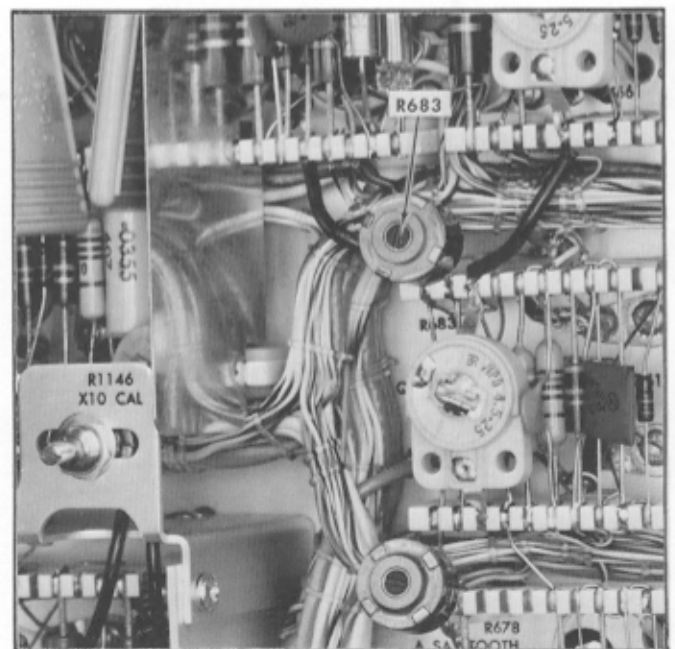
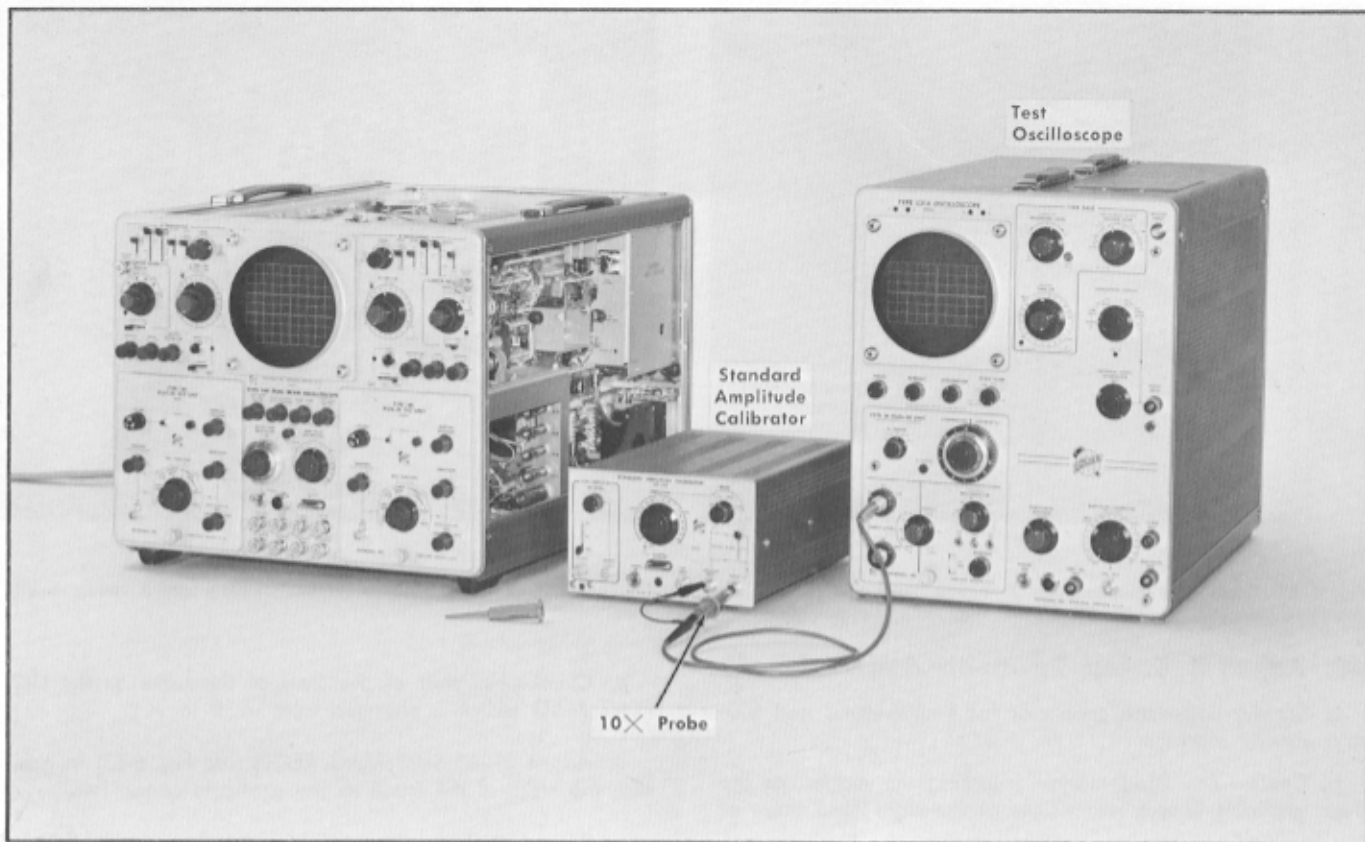

Fig. 6-37. Location of lower beam A sweep gain adjustment for serial numbered instruments 2000 and up.
Fig. 6-38. Equipment setup for A and B sawtooth current adjust.
43. Adjust Lower Beam A Sweep Gain (SN2000-up only) ❶
- f. Adjust R683 (see Fig. 6-37) to obtain one 100-microsecond marker/cm.
44. Adjust A and B Sawtooth Currents ❶
- a. The equipment setup is shown in Fig. 6-38.